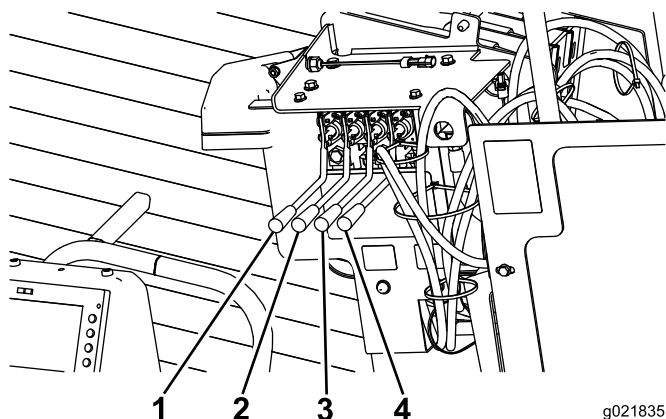

Figure 46
6. Press the 2 right stake levers in to lower and spin the right stake auger until it seats fully (Figure 46).